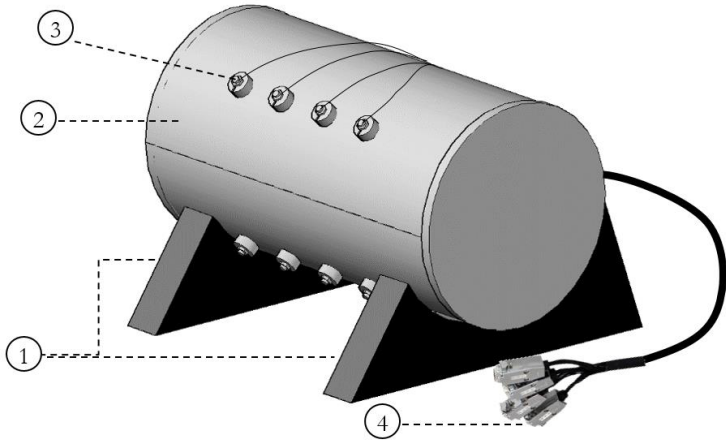

Figure 6: The Surf™ sample holder
Giatic Surf™ has two main components: A measuring device (Fig. 3), and a sample holder. (Fig. 6). The measuring device can be used as a stand-alone equipment to perform the tests. It can also be connected to a personal computer (PC) using the USB connection port. The Data Monitor software, provided in the package, controls the device and can be used to record the test data. In this section, the key functions of these components are described.